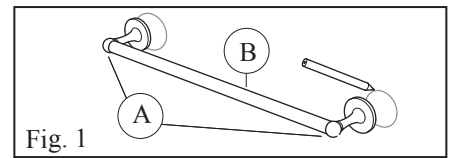

Fig. 1
1. Hold assembled item up against desired position on wall, and outline the back plates of end pieces with a pencil. (Fig. 1)